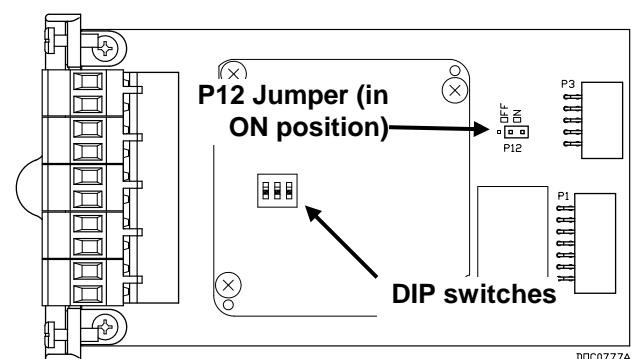

Figure 7. P12 Jumper on H1 PWR Module
5. Position the module as shown in *Figure 7*.